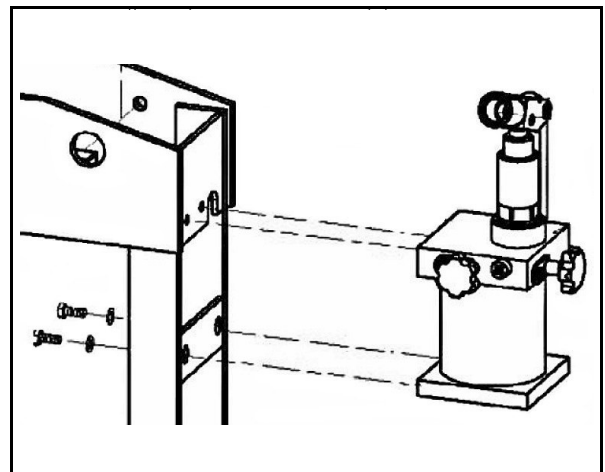

Fig. 6: Installing the pump unit
Step 1: screw the pump unit onto the outside of the frame using the screws and shims (see Fig. 6).